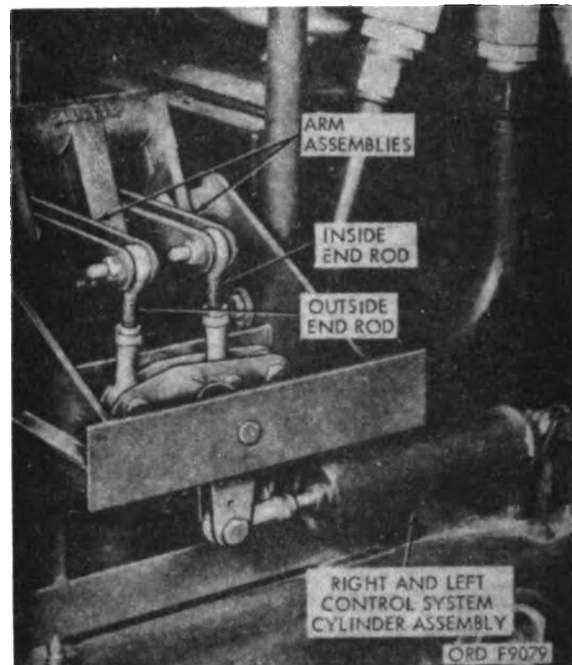

Figure 165. Arm assemblies, end rods, and control system cylinder assembly.
- (1) Operate the howitzer forward (par. 39c(4)) on level ground to note any tendency to drift from a straight line.
- (2) If the howitzer drifts to the left, more power is being delivered to the right wheel than to the left wheel. Adjust the right wheel by lengthening or shortening the inside
end rods (fig. 165) as in *g*(4) above.
- (8) If the howitzer drifts right, adjust the outside end rods (fig. 165).
- (2) If control stick moves too far to the right or left, lengthen or shorten control cylinder system assembly (fig. 165) as in *g*(4) above.